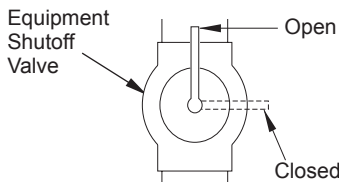

Figure 5 - Equipment Shutoff Valve
1. Close equipment shutoff valve (see Figure 5).
3. Check all joints from gas meter to equipment shutoff valve (see Figure 5). Apply mixture of liquid soap and water to gas joints. Bubbles forming show a leak.
Turn gas shutoff valve clockwise ↷ to the OFF position (see Figure 5, page 8) .